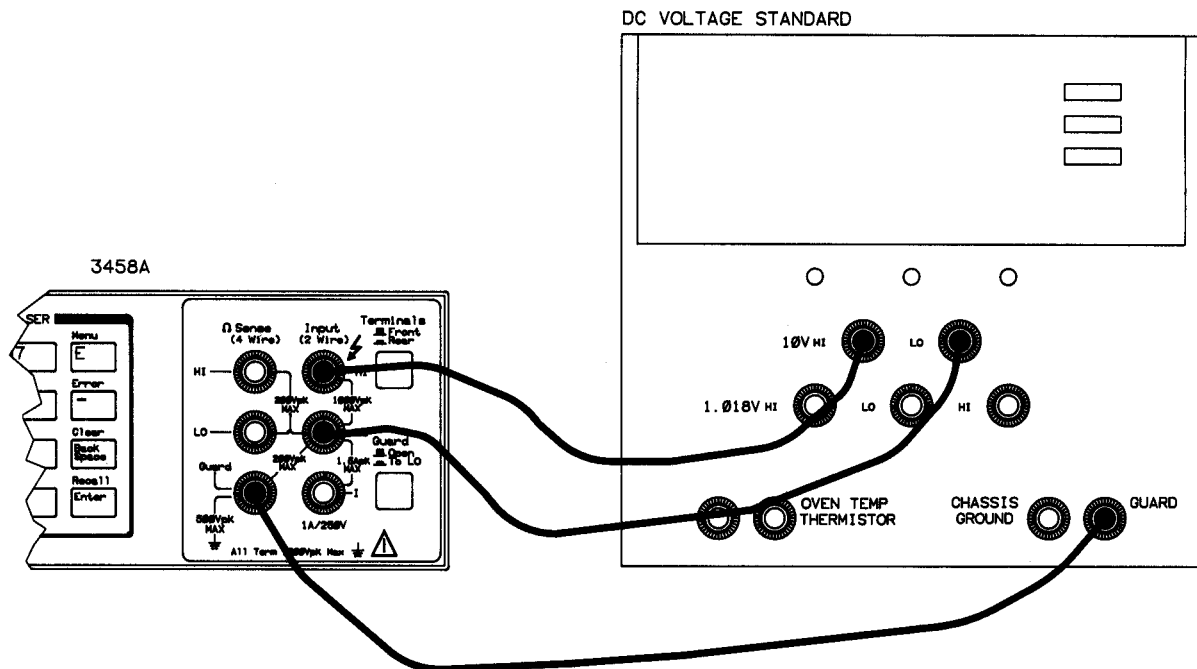
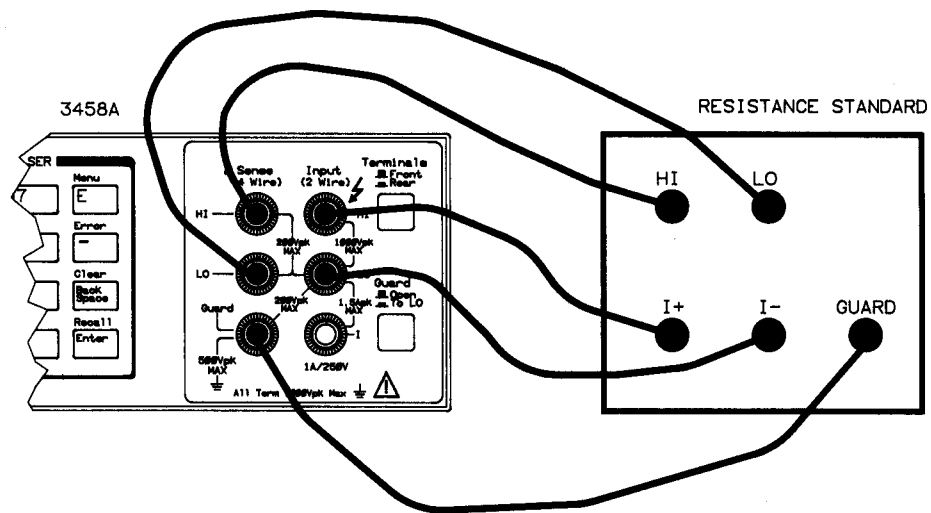

Figure 2. DC Gain Adjustment Connections
Figure 3. Resistance and DC Current Adjustment Connections
3. Connect the voltage standard to the multimeter's front panel **HI** and **LO Input** terminals as shown in Figure 2. If using a **Guard** wire (as shown in Figure 2), set the **Guard** switch to the **Open** position. If not using a **Guard** wire, set the **Guard** switch to the **To LO** position.
4. Connect the resistance standard to the multimeter's front panel **HI** and **LO Input** and **HI** and **LO Sense** terminals as shown in Figure 3. If using a **Guard** wire (as shown in Figure 2), set the **Guard** switch to the **Open** position. If not using a **Guard** wire, set the **Guard** switch to the **To LO** position.